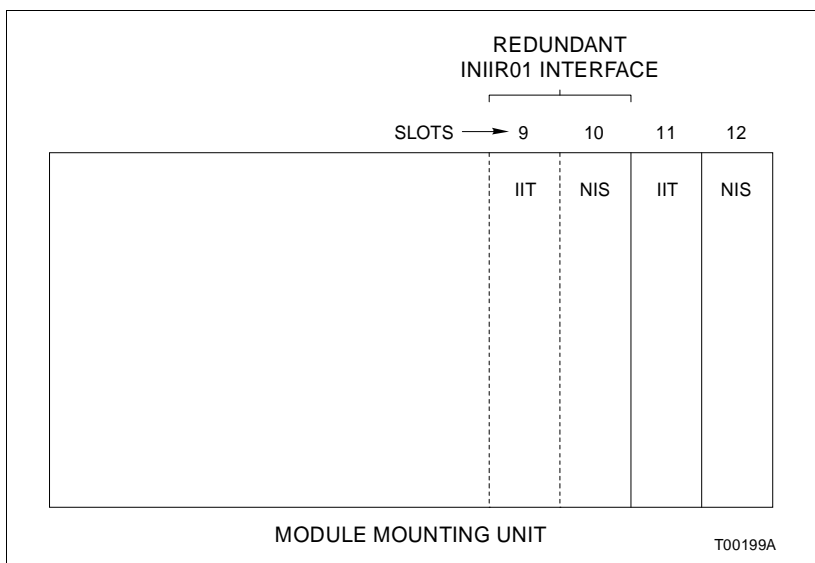

Figure 3-5. Typical INIIR01 Module Slot Assignment in the Module Mounting Unit
1. There must be 2 empty slots (side by side) available in one module mounting unit (on each loop) to install one interface. Redundant interfaces require 4 slots or more depending on the application (see Figure 3-5). Additional slots will be needed if using redundant digital I/O modules to enable a transceiver. Prepare the module mounting units in which to mount the interface so that the required slots are available.